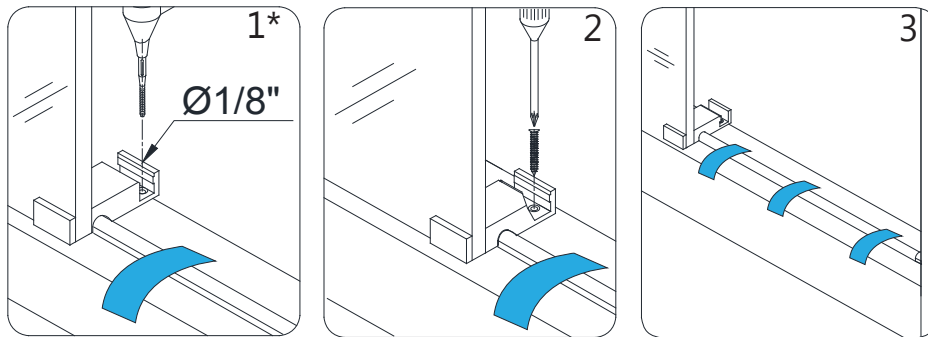

Fig. 15
14. Fasten the **Guide Block (#12)** to the threshold or tub deck with the **Countersunk Screw ST4.2×25 (#17)**. (Fig. 15)